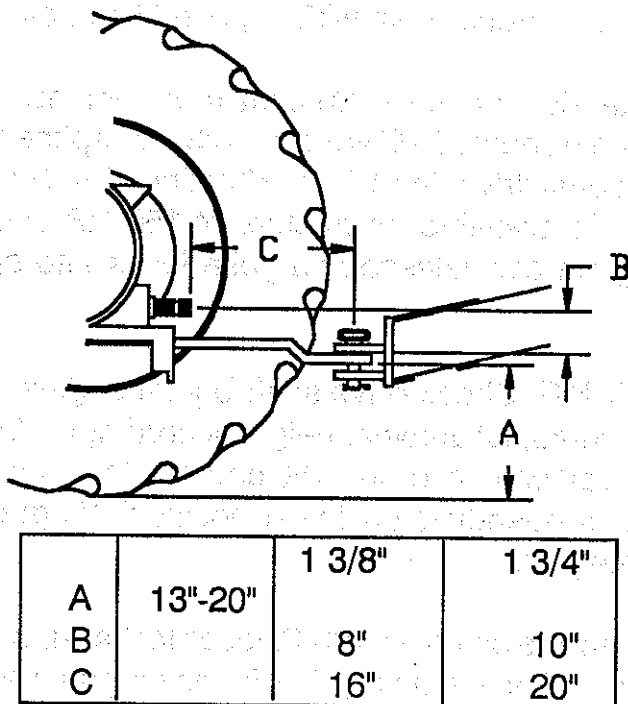

FIGURE 8: TRACTOR DRAWBAR ADJUSTMENTS
2. Adjust tractor drawbar according to standard ASAE specifications for 1 3/8"-21 1000 rpm PTO spline. Dimension guidelines are given in Figure 8. Align drawbar with center line of PTO spline and secure from side sway.